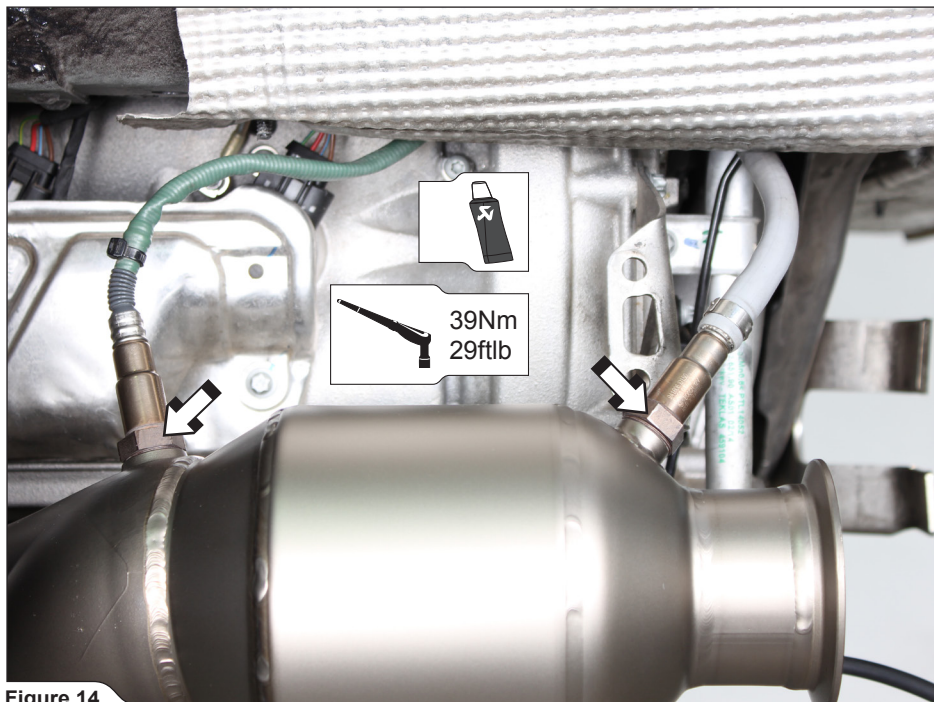

**Figure 13**
1. Set left and right Akrapovič headers with new stock gaskets and hand tighten with all stock nuts first. Tighten nuts to a specified torque using criss-cross pattern in three steps (**Figure 13**).